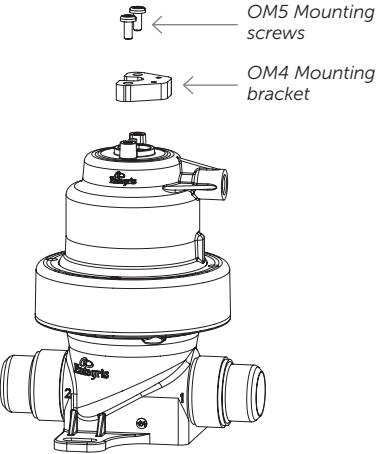

Figure 4. Omron sensor bracket mounting.
20. For Omron kit only, install the Omron sensor mounting bracket (OM4) using 2X #8-32 mounting screws (OM5). Refer to Figure 4.